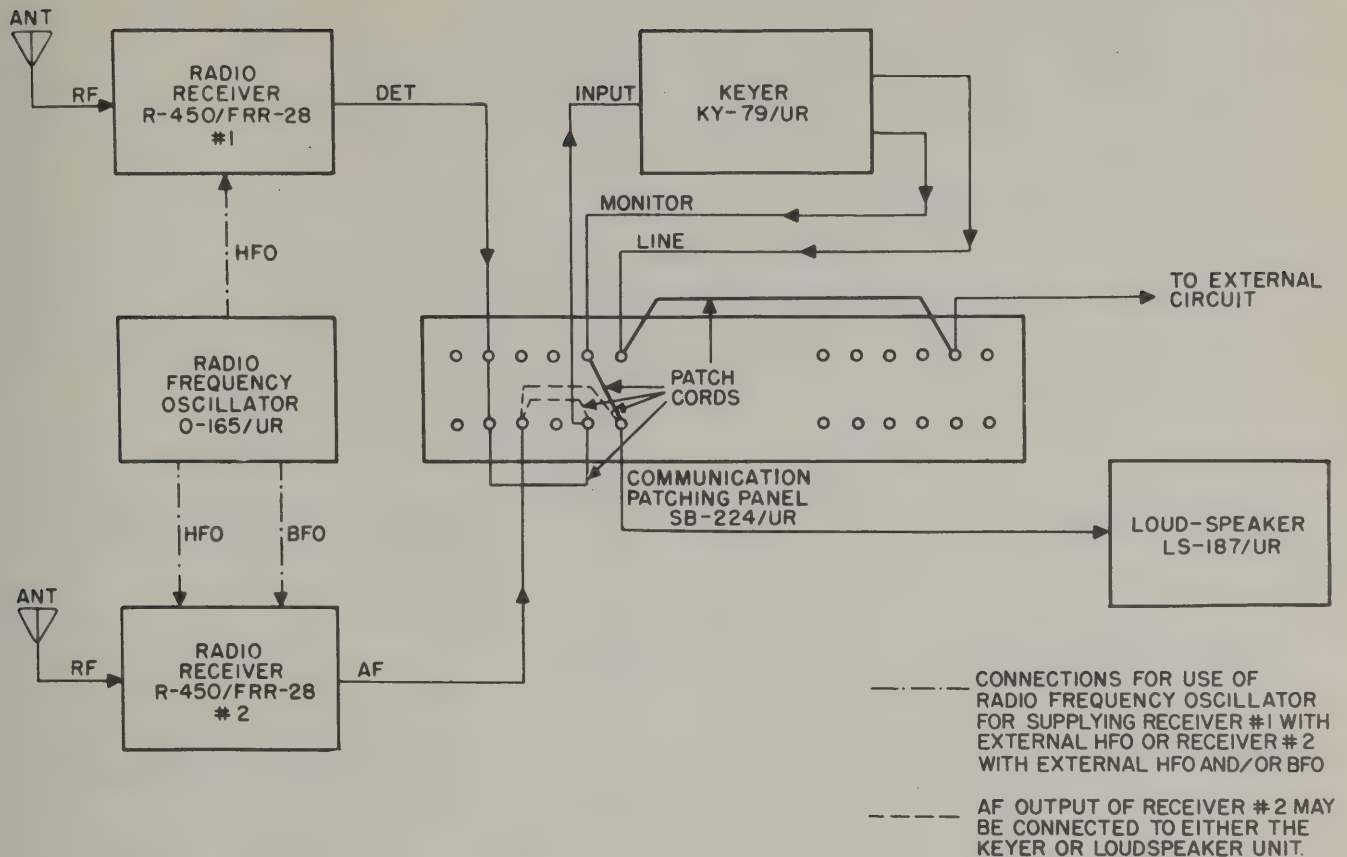

Figure 2-2. Radio Receiving Set AN/FRR-28, Block Diagram, Individual Reception of CW Signals
b. INDIVIDUAL RECEPTION OF CW SIGNALS. (See figure 2-2.)—The keyed telegraph signal from the antenna is preselected, amplified, and detected in the receiver. The detected signal is fed directly to Communication Patching Panel SB-224/UR in receiver #1. In receiver #2 the detected signal is mixed with a BFO voltage from the receiver or Oscillator O-165/UR, to produce an audio tone which is then fed to SB-224/UR. The detected signal from receiver #1 or the audio tone from receiver #2 is fed through SB-224/UR and a patch cord to Keyer KY-79/UR. The Keyer KY-79/UR monitoring output is fed through SB-224/UR and a patch cord to Loudspeaker LS-187/UR. The line output of Keyer KY-79/UR is applied to SB-224/UR and a patch cord to an external circuit, such as a teletypewriter, which operates on the tone signal produced by the Keyer KY-79/UR. The audio output of receiver #2 may be fed directly to Loudspeaker LS-187/UR instead of Keyer KY-79/UR.